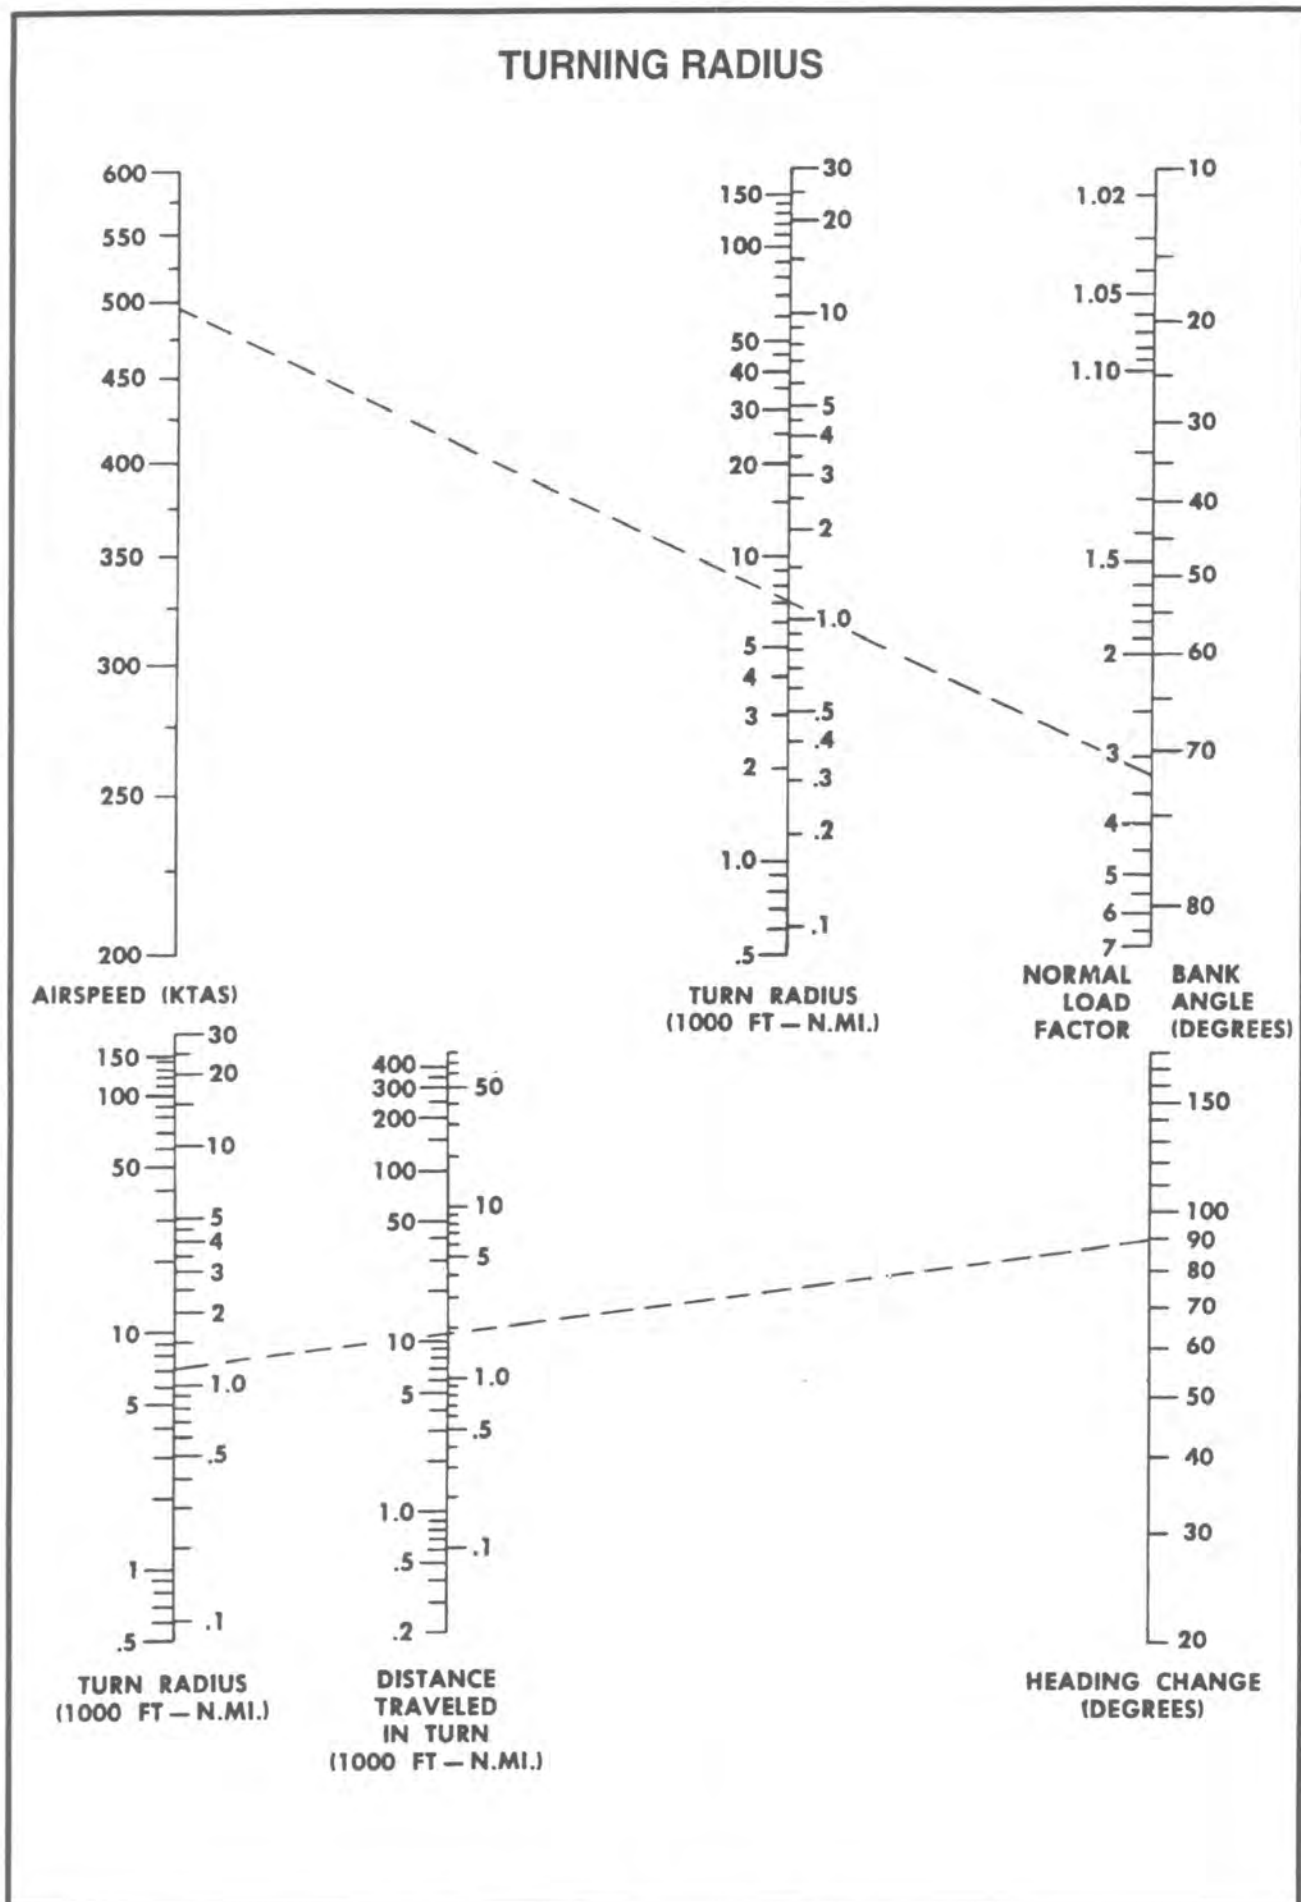

Figure 9-96 Turning Radius
9.62 The turning radius nomograph, Figure 9-96, present data for steady state level turns as a function of true airspeed, normal load factor, bank angle, distance travelled, and heading change. When used in conjunction with the load factor limitations of the manoeuvrability charts, Figure 9-97, the aerodynamic, engine, and structural characteristics of the aircraft are taken into account.
(For Figure 9-96)